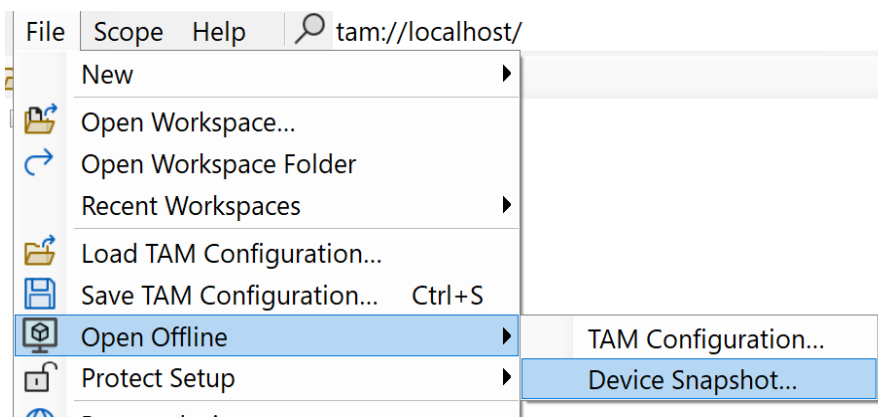

Figure 26: Open a TAM Snapshot via the context menu
2. Load a .TAMsnap file via the context menu shown in Figure 26.